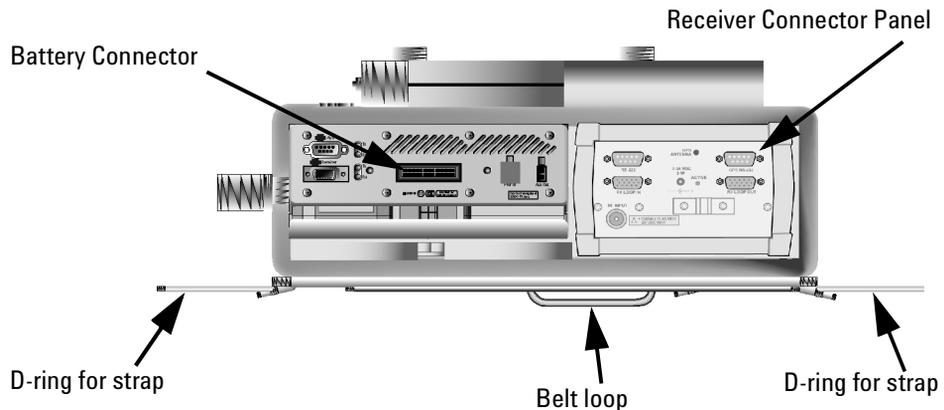

Figure 31 Single receiver backpack (left side view)
- 4 Attach the shoulder strap to the D-rings of the pack. See Figure 31.